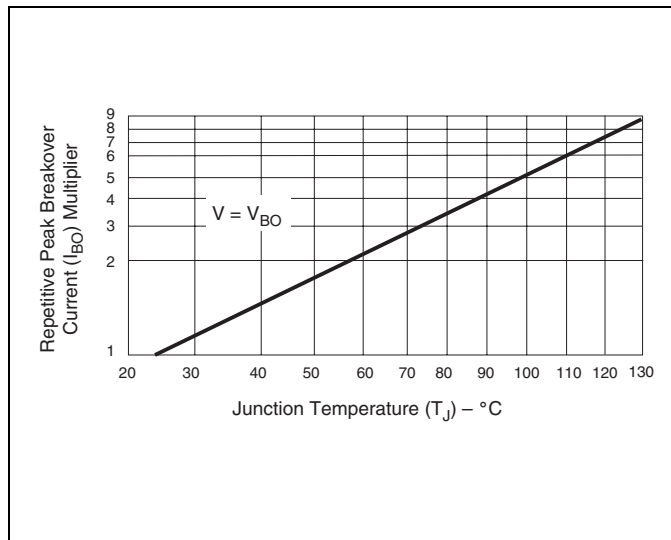

Figure E9.6 Normalized Repetitive Peak Breakover Current versus Junction Temperature
- See Figure E9.6 for  $I_{BO}$  versus junction temperature.